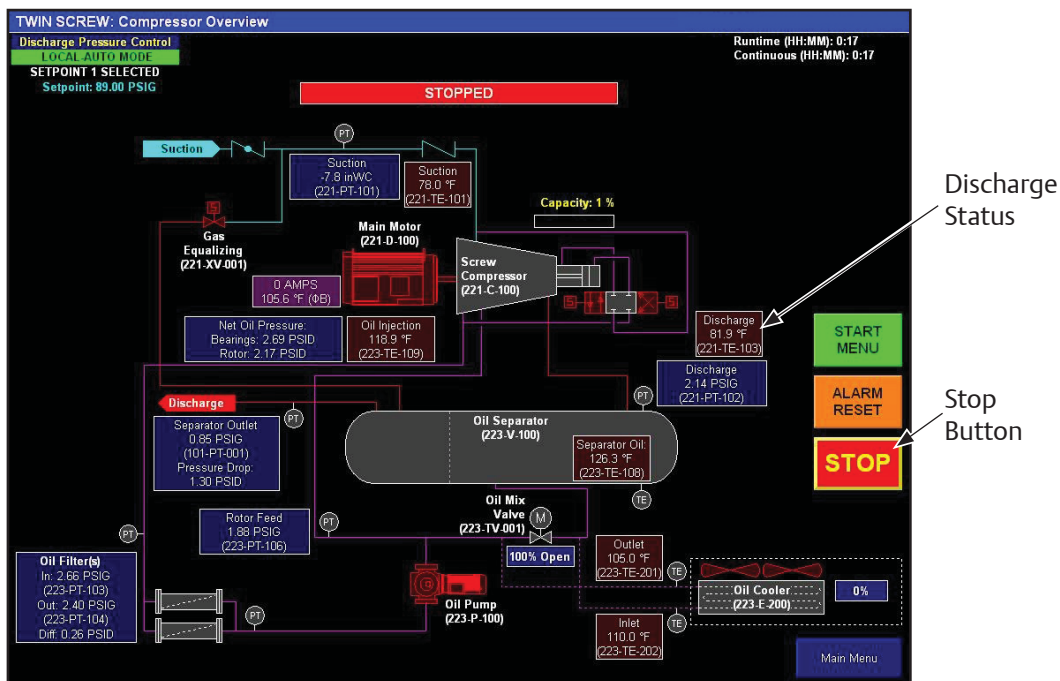

Figure 4-7. PLC Main Screen
1. Press “Stop” button to stop compressor unit, see Figure 4-7.